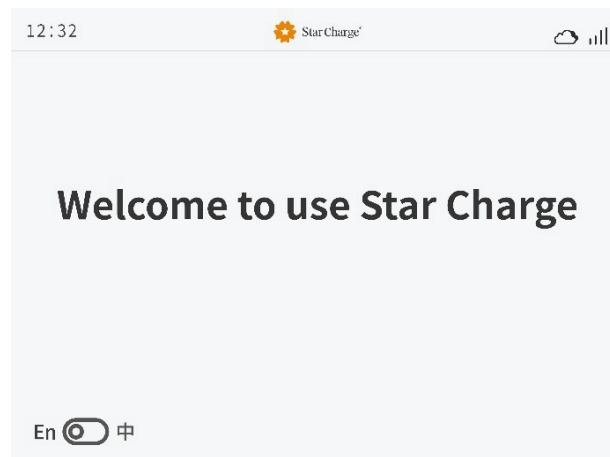

Figure 3-1 Main interface of charging
Step 1: On the main interface of EVSE, insert the Charging connector to enter the next step, as shown in Figure 3-1 and